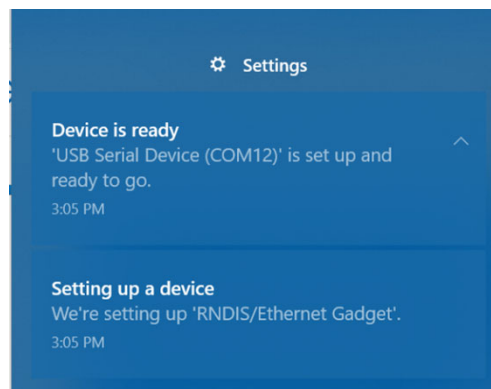

Figure 5-1: USB-C Installation—Windows Setup Notifications (Windows 10 shown)
3. Wait for the automatic virtual COM port setup to complete—The computer displays a notice while setting up the port, and another notice when the installation is complete, as shown in Figure 5-1.